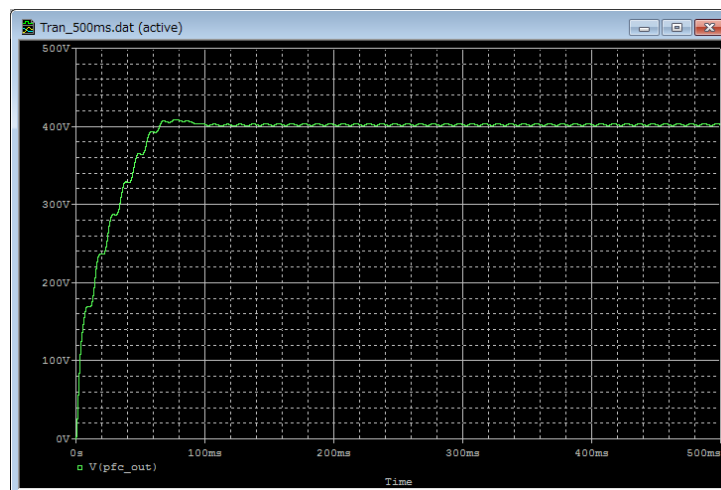

Figure 5.7 Simulation waveform view (Example: PFC output voltage waveform)
3. Click **OK**. Then, the selected waveform appears as shown in Figure 5.7.